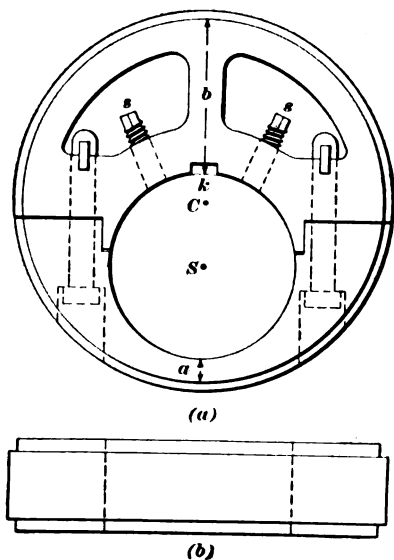

FIG. 31.
**33. Construction of Eccentric.**—A standard form of eccentric is shown, with strap removed, in Fig. 31, in which (a)
Fig. 31, and the greatest distance  $b$ , between the axle and the edge of the eccentric, and subtracting the distance  $a$  from the distance  $b$ . The eccentricity, of course, will be just half this difference.